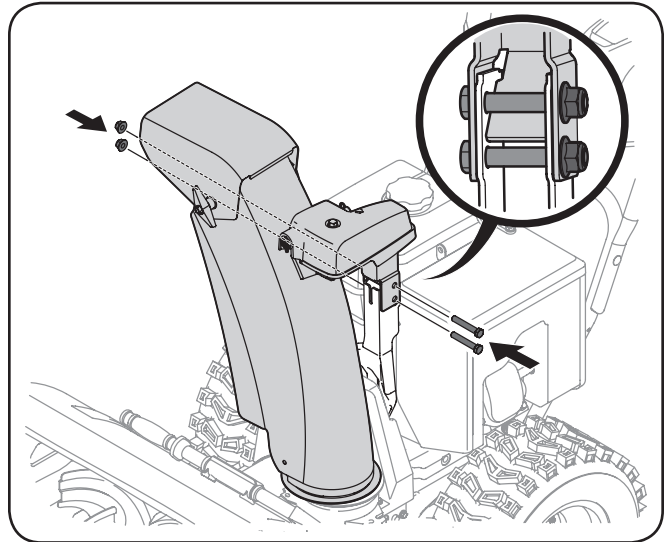

Figure 3-6
3. Secure chute control head to chute support bracket with the lock nuts and hex screws removed earlier. See Figure 3-6.